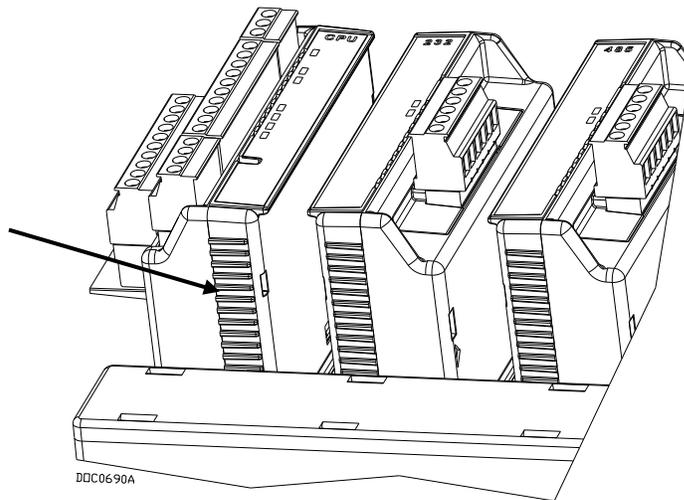

Figure 2-8. Ridged Edges on CPU Module
4. Place your fingers on the ridged edges on both sides of the CPU module and pull gently (see *Figure 2-8*). The cover should slide forward and stop, releasing the module lock.